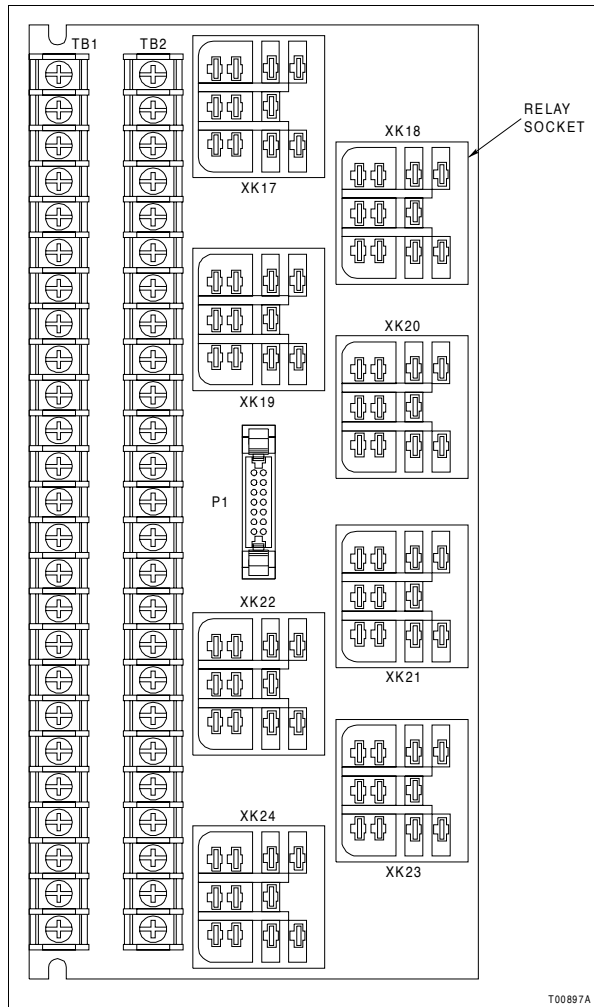

Figure PR33-1. RLY-100 Board Layout (Shown Without Relays)
- ☐ 2. Open the access door, then pull the existing relay from its socket XK17 through XK24 (Fig. PR33-1). The sockets are very tight to insure the relays remain in place. Rock the relay up and down to loosen and remove it.